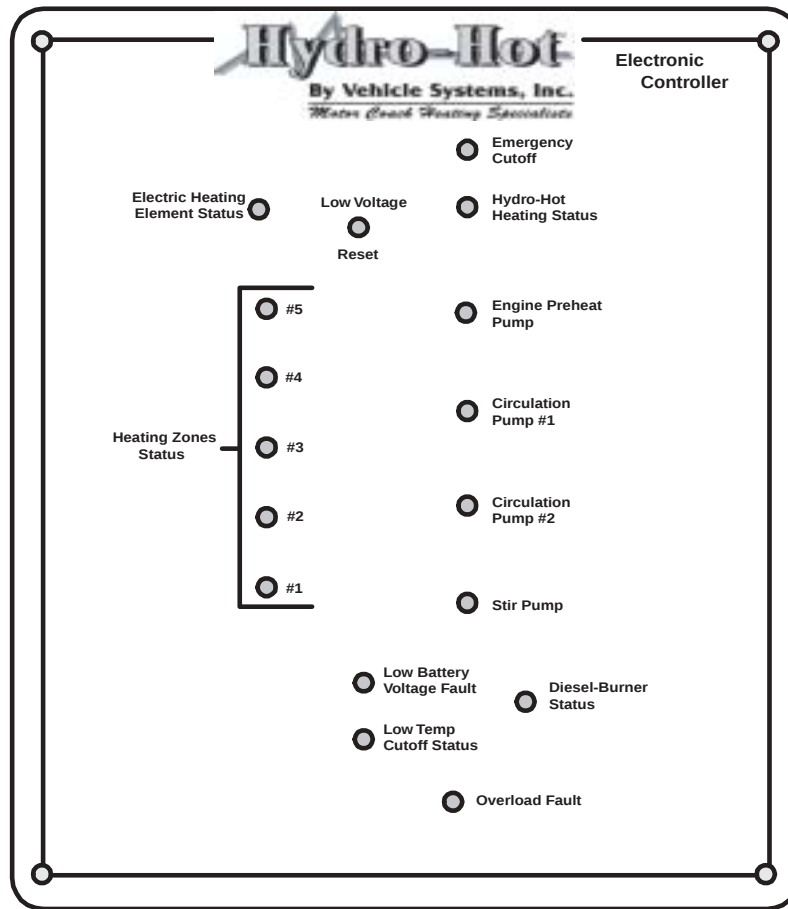

Figure 3
Turn the "**Diesel**" Control Switch **ON, Figure 3**. This procedure will activate the Diesel-Burner and the Indicator Light located on the Switch. Please contact your specific motorhome manufacturer for the exact Diesel Control Switch location. Allow 10-20 minutes for the System to reach operating temperature. Please note that the Diesel-Burner is the **main heat source** for heating both the interior and the domestic hot water. So, be sure to leave this switch **ON** during normal heating requirements.
Turn the "**Electric**" Control Switch **ON, Figure 3**. This procedure will activate the Electric Heating Element and the Indicator Light located on the Switch. The 120 VAC Electric Heating Element is wired directly into your coaches 120 VAC electrical system and is operational whenever VAC power is available. Allow 1-2 hours for the System to reach operating temperature. Please note that the Electric Heating Element will adequately provide all your heating needs **only** for low heating demand situations, such as when moderate ambient temperatures exist and/or when there is a low demand for domestic hot water.
A. Turn the Hydro-Hot's **"Engine Preheat"** Switch **ON**, **Figure 3**. This procedure will activate the Engine Preheat Circulation Pump and the